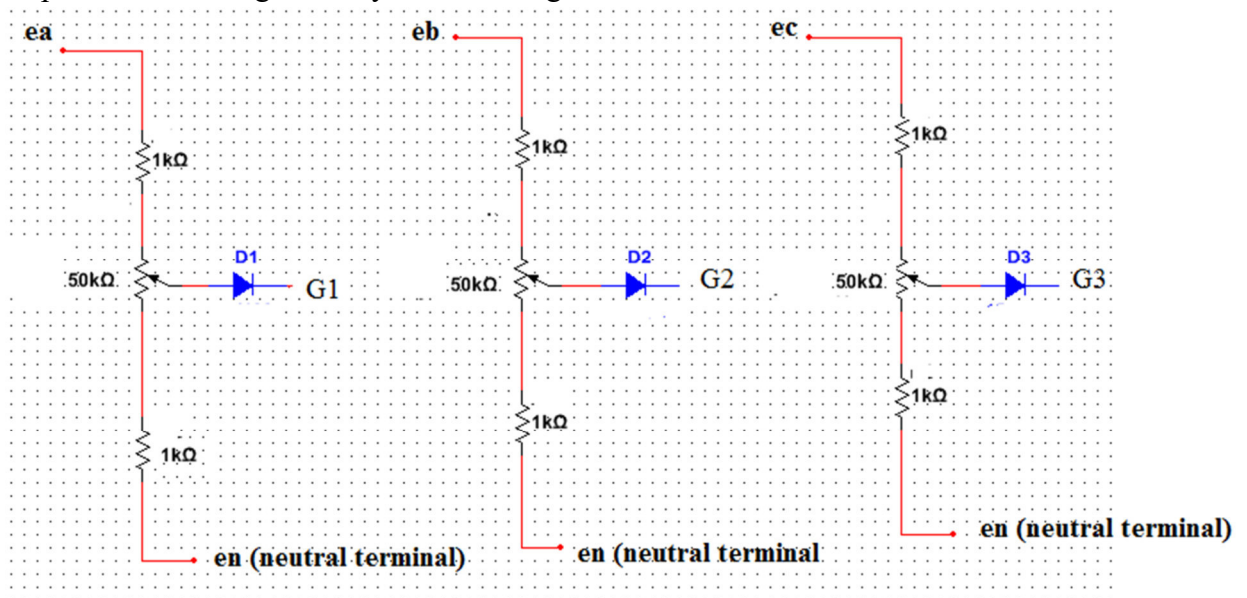

Figure 7.5: Firing Circuit for Three Phase Halfwave Controlled Rectifier
- Implement the firing circuitry shown in Figure 7.5 on breadboard.